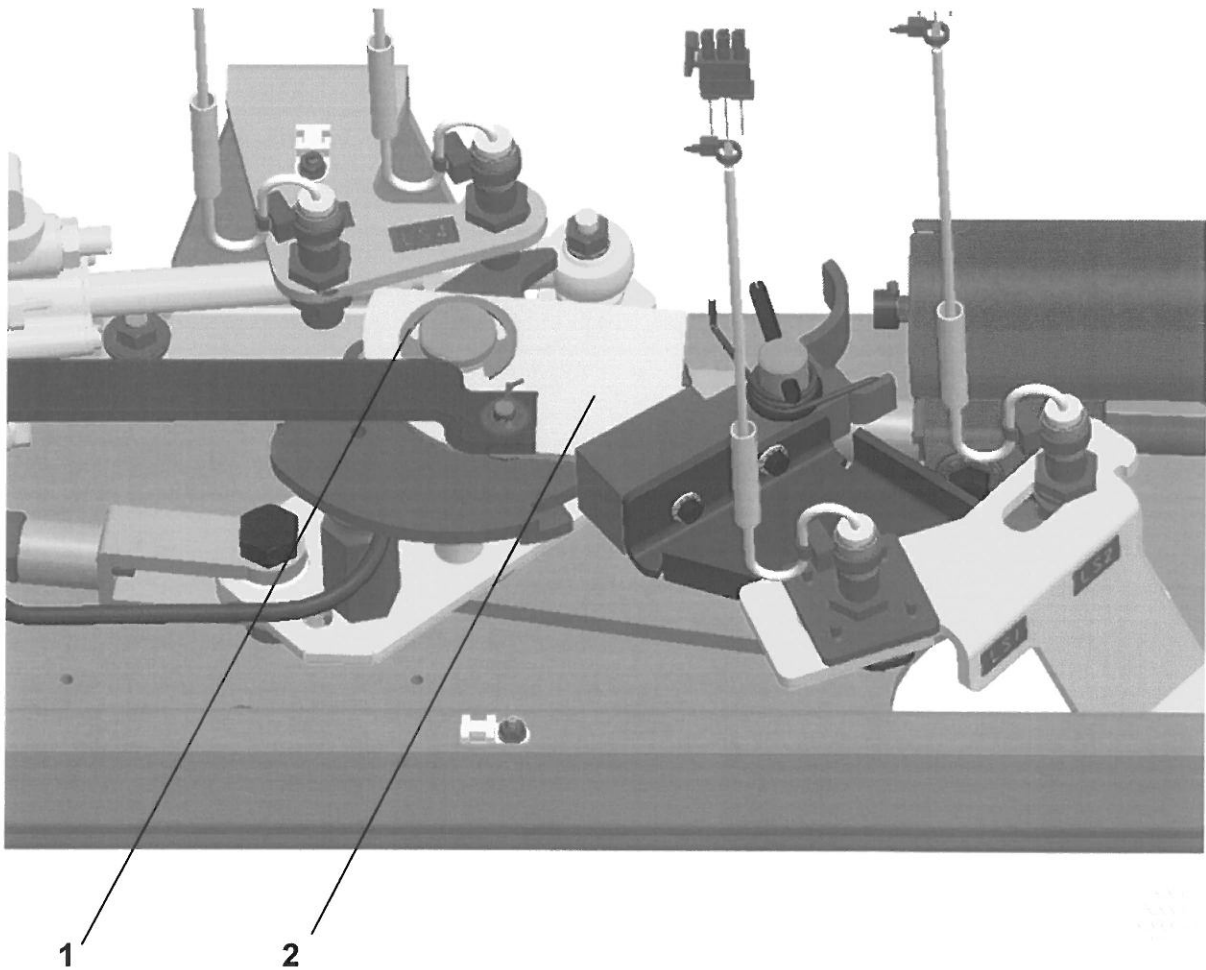
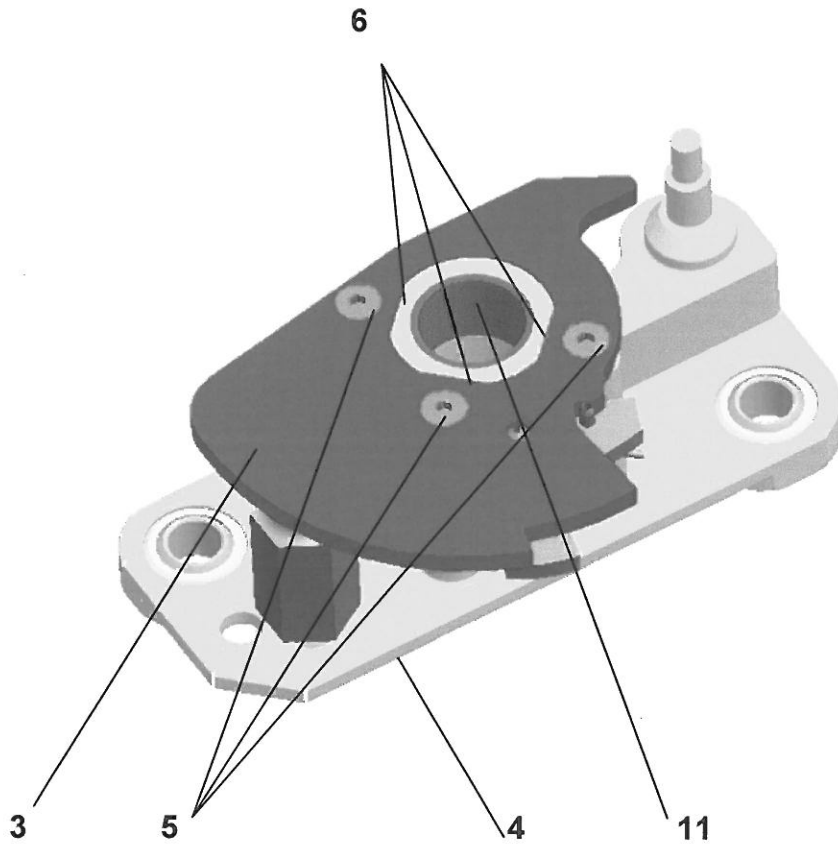

Fig.1 Location of the teeter-lever on the Base Plate.
Fig. 2 Teeter lever assembly
3. Determine whether or not the teeter lever assembly (Fig. 1 and 2) is a welded assembly (Fig. 3) by looking for the cam mounting screws (Item 5 in Fig 2). If the cam mounting screws are present, the teeter lever assembly is mechanically fastened. If there are no cam mounting screws, the teeter lever assembly is a welded assembly. If the teeter lever assembly is a welded assembly, it should be left as is and no further work is required. Mark the vehicle remediation record to indicate that it is a welded assembly and proceed to the next vehicle. If the teeter lever assembly is a mechanically fastened assembly, proceed to Step 4.
5. Remove retaining ring 1 and lift up emergency release cam 2 (Fig.1) to provide access to the teeter lever screws 5 (Fig.2).
6. Remove screws 5 (Fig.2), attaching cam 3 to the teeter lever base 4 and remove cam 3.